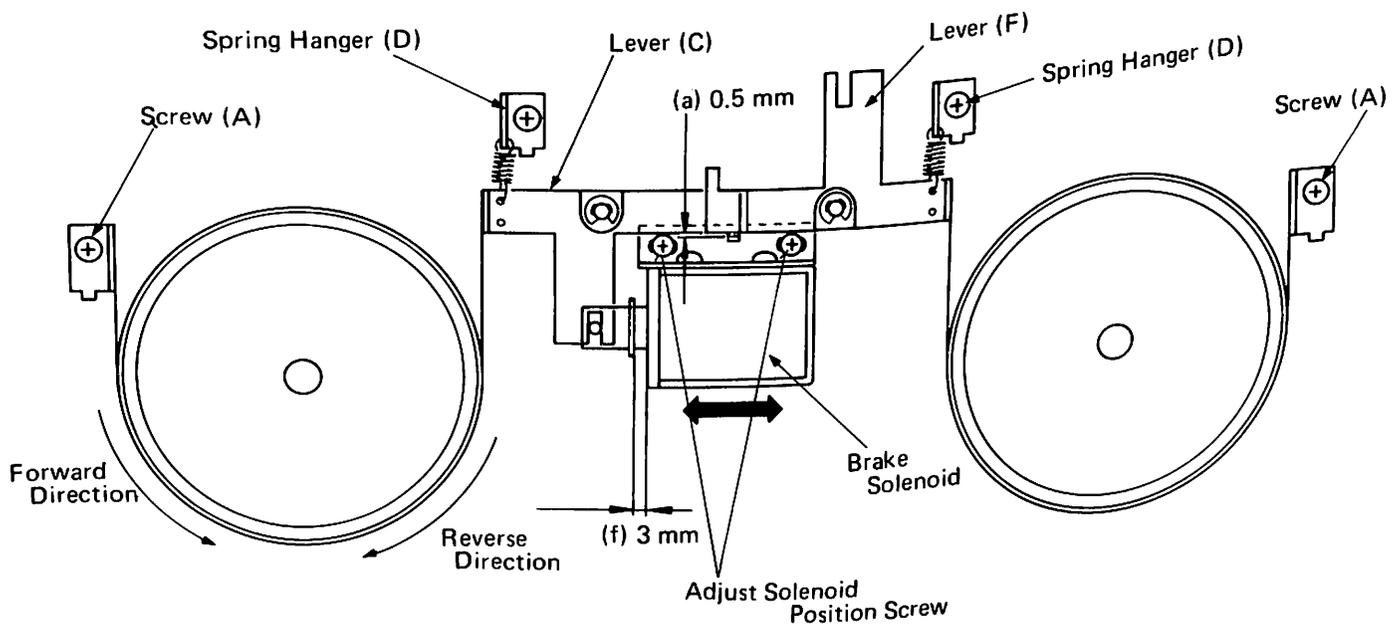

Fig. 1-3-2
1. Screw (A) for the left brake (as viewed from the front) must be adjusted so that lever (C) is parallel to brake solenoid. Screw (A) for the right brake must be adjusted so that there is a clearance (a) of 0.5 mm between lever (C) and lever (F). See Fig. 1-3-2.
4. If the forward-direction torque is not correct, change the hooking position of the spring hanger (reference (D) in Fig. 1-3-2) for the corresponding brake requiring adjustment. If, after the forward-direction torque has been properly adjusted, the reverse-direction torque is not correct, or the forward-direction torque is still not correct, replace the brake felt pad with a new one after cleaning the inner side of the brake band with a cleaning alcohol, and also check that the brake mechanism is properly aligned as explained in Section 1-3-2, "Brake Mechanism". If necessary, replace the entire reel table.